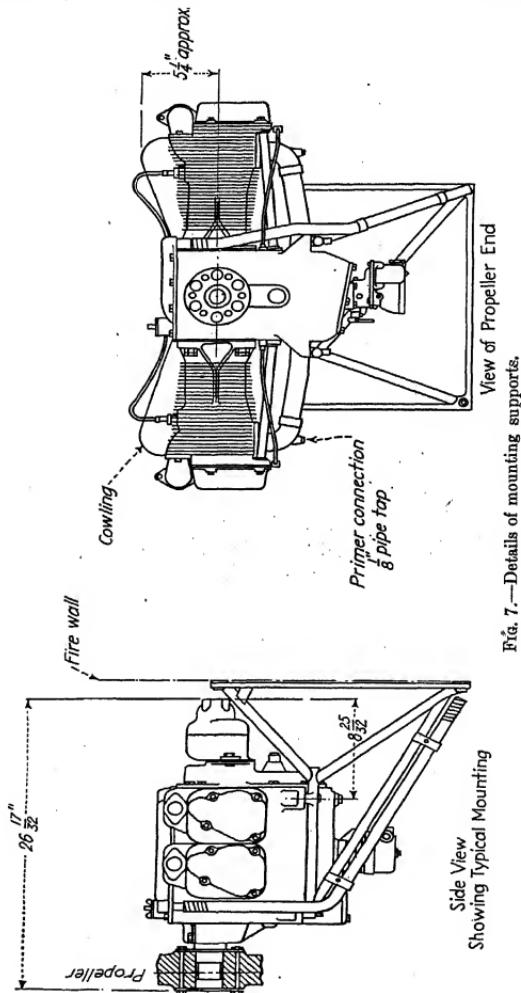

Fig. 7.—Details of mounting supports.
*Mounting the Engine.*—Installation diagram (Fig. 7) shows a typical engine mounting. It applies to models 4AC-150 and 4AC-171. The engine is bolted to the mounting at four points. A material similar to automotive brake lining should be used to insulate the engine from the mount at these four points. If, for any reason, it is necessary to remove the engine from the ship, care must be taken when replacing it. The same thickness of insulating material must be used at each mounting point, in order to ensure proper alignment of the mounting lugs and even tension on the crankcase.